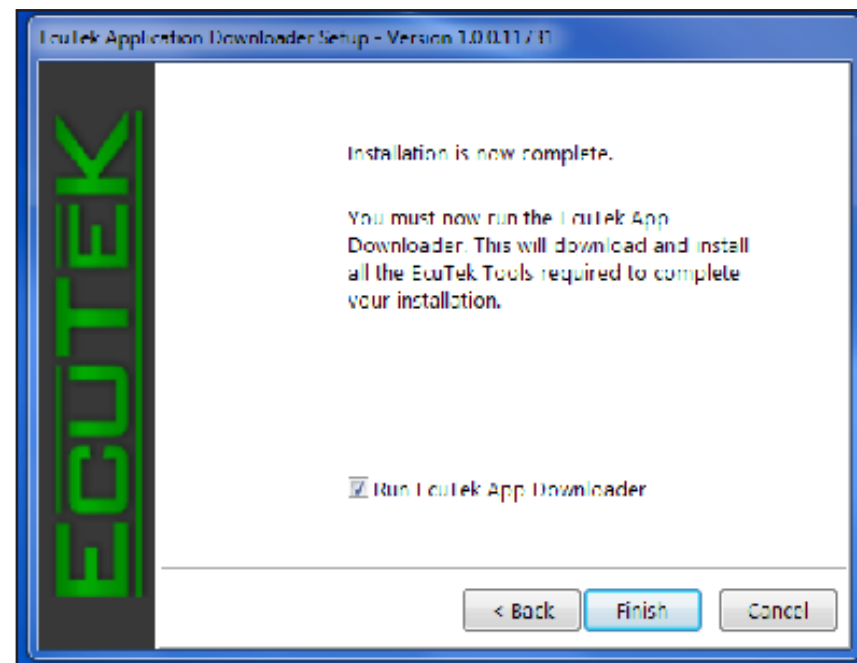

Fig. 1I
- I. You will be prompted with “Installation is now complete”. Select [Finish] to complete the process. See Fig. 1I.